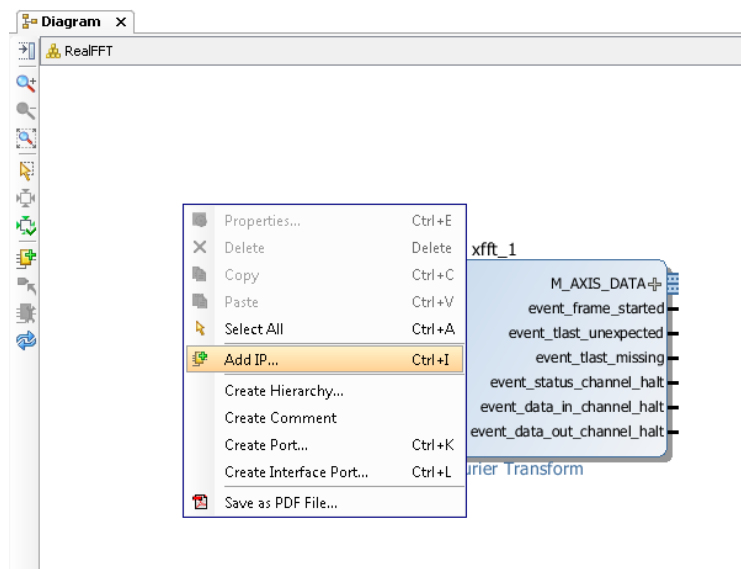

Figure 200: Add IP blocks
6. Right-click in any space in the canvas and select **Add IP** (Figure 200).